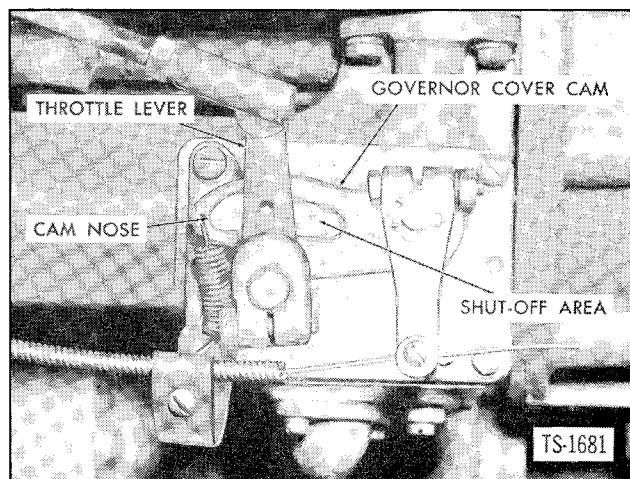

Fig. 36. Idle Position (G.M. Diesel)
5. Release accelerator, and check that linkage returns throttle lever to idle notch in governor cover cam as shown in Figure 36.